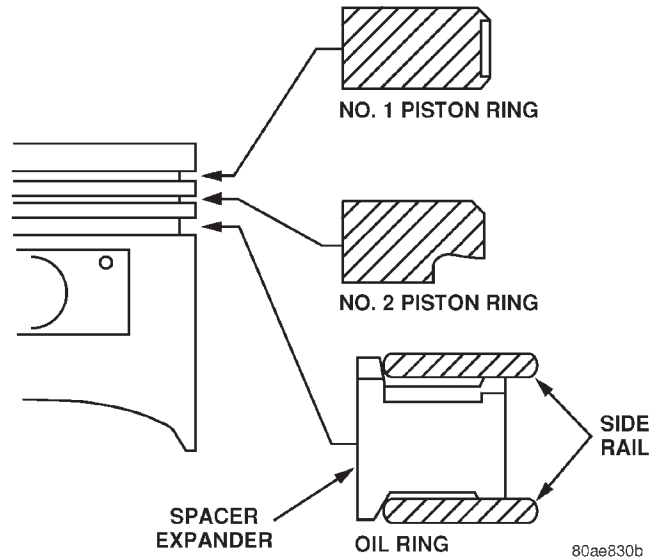

Fig. 94 Piston Ring—Installation
(1) The No. 1 and No. 2 piston rings have a different cross section. Insure that the No. 2 ring is installed with manufacturers I.D. mark (dot) facing up, towards top of the piston (Fig. 94).